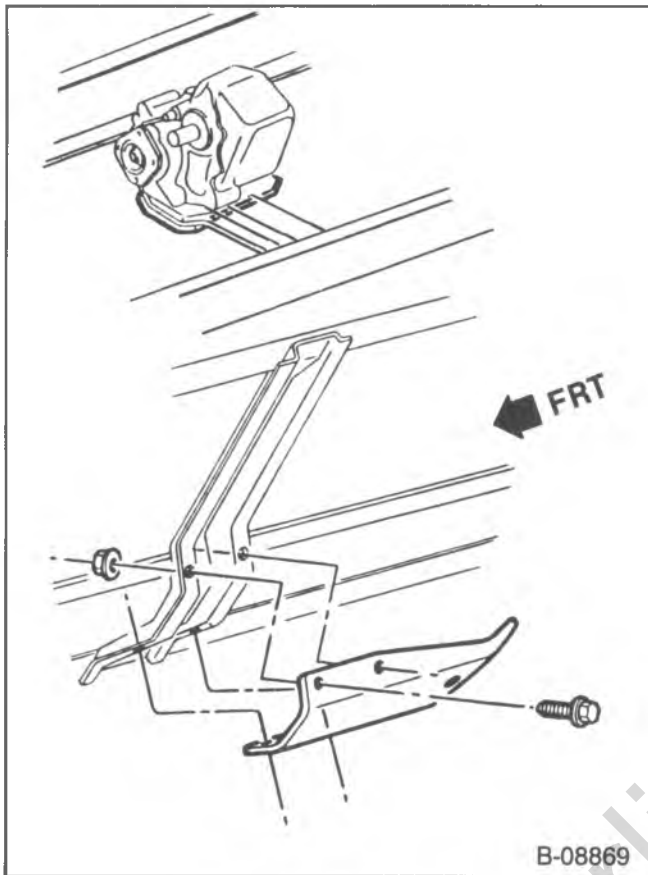

Figure 4—Skid Plate
- 2. Skid plates and crossmembers (figure 4).
- 5. Crossmember support and skid plate, if removed (figure 4).